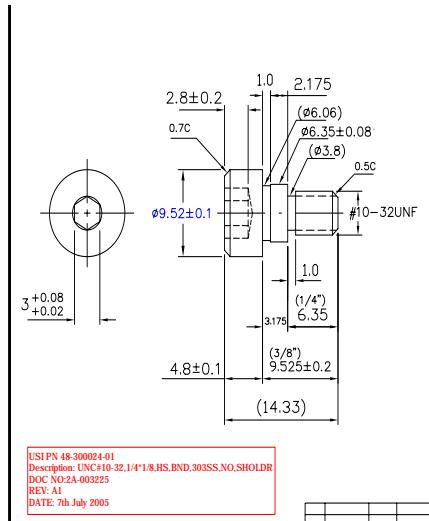

Figure 12: Shoulder Screw (specification front and side)
1. Obtain three of the screws shown in Figure 12.